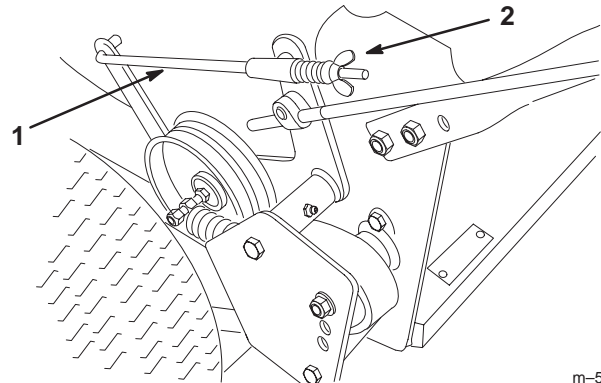

Figure 36
3. To adjust the brakes, rotate the wing nuts on the brake rods (Fig. 36). Rotate the wing nuts clockwise to tighten the brakes; rotate them counterclockwise to loosen them.